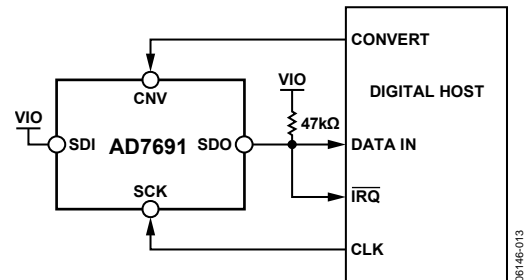
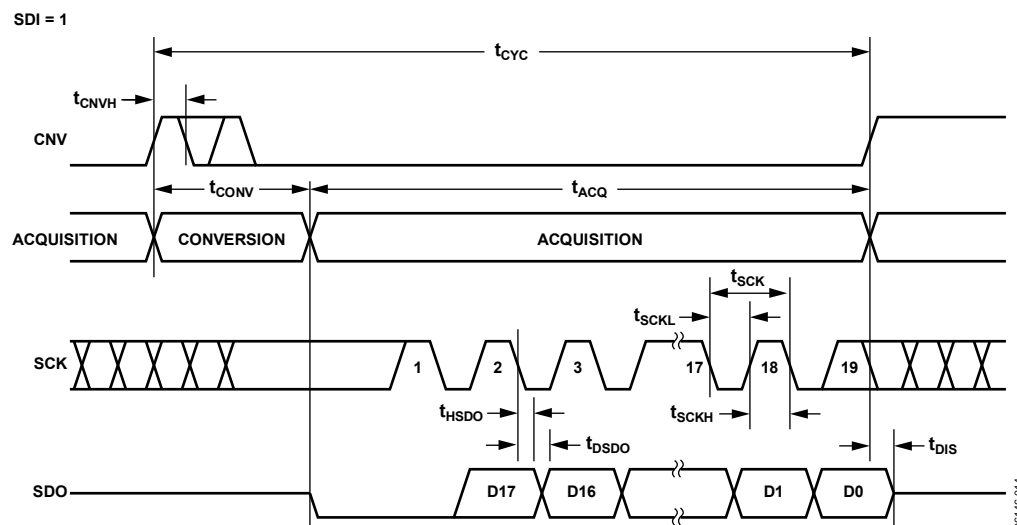
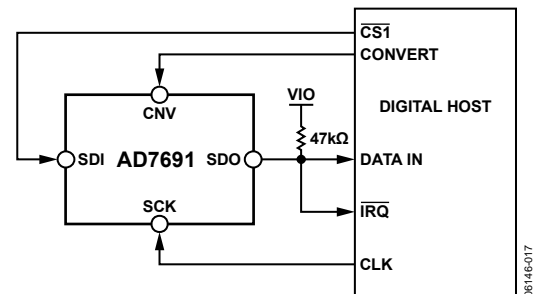
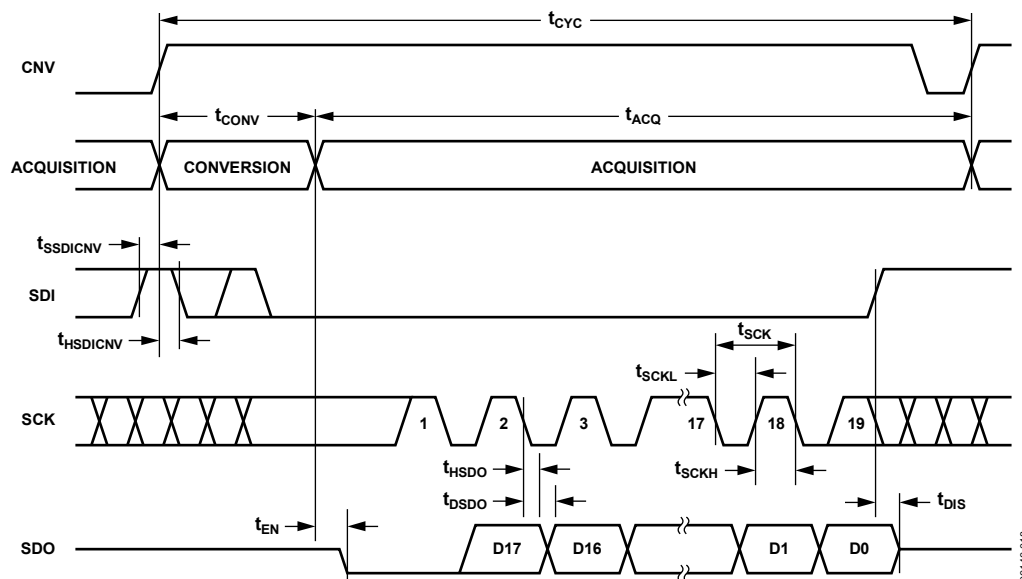

Figure 37. 3-Wire $\overline{\text{CS}}$ Mode with Busy Indicator Connection Diagram (SDI High)
Figure 38. 3-Wire $\overline{\text{CS}}$ Mode with Busy Indicator Serial Interface Timing (SDI High)
Figure 41. 4-Wire $\overline{\text{CS}}$ Mode with Busy Indicator Connection Diagram
Figure 42. 4-Wire $\overline{\text{CS}}$ Mode with Busy Indicator Serial Interface Timing
- In the $\overline{\text{CS}}$ mode if CNV or SDI is low when the ADC conversion ends (see Figure 38 and Figure 42).
The connection diagram is shown in Figure 37, and the corresponding timing is given in Figure 38.
The connection diagram is shown in Figure 41, and the corresponding timing is given in Figure 42.